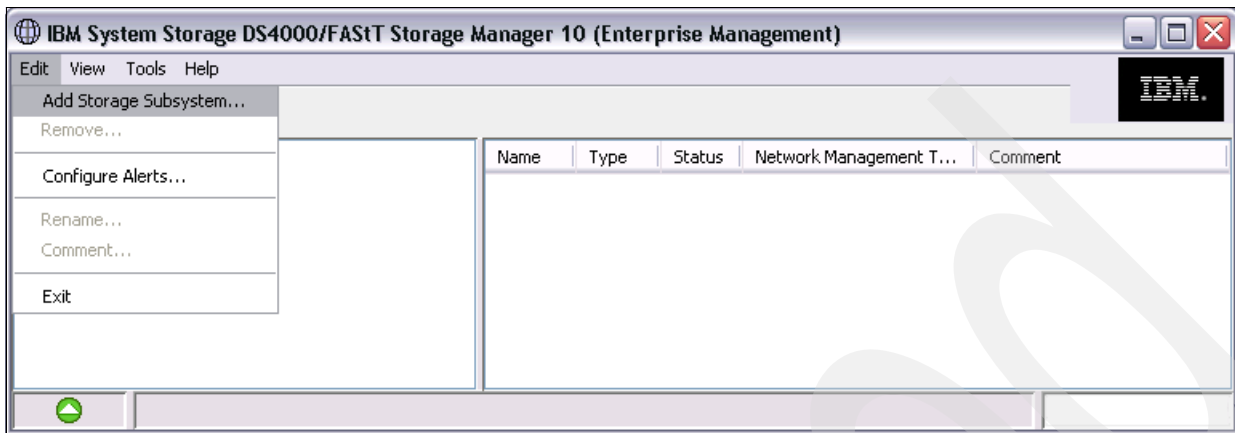

Figure 7-11 DS Storage Add Storage Subsystem menu
13. To manually add our DS4800 Storage System to the management domain of our DS Storage Manager client we select from the menu **Edit** → **Add Storage Subsystem**, as shown in Figure 7-11.